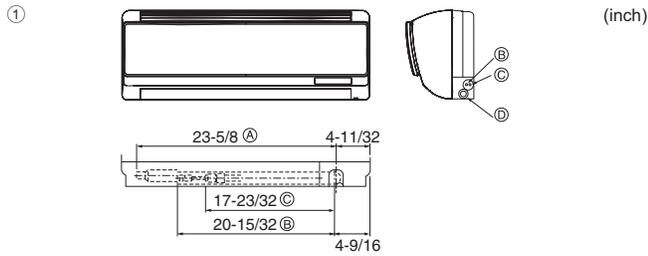

Fig. 4-2
① Position of refrigerant and drain piping (Fig. 4-2)
- (A) (Total length of flexible hose)
- (B) Liquid pipe
- (C) Gas pipe
- (D) Drain hose